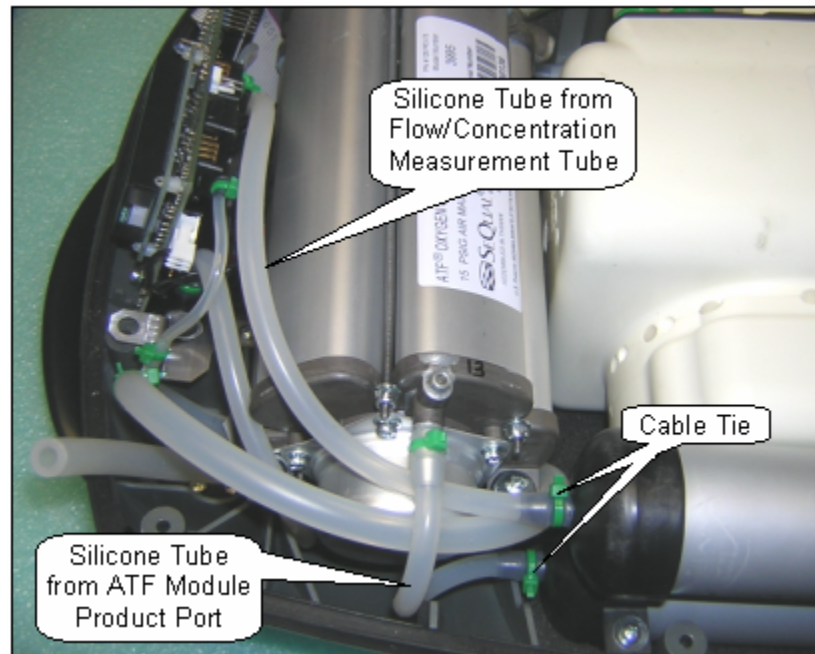
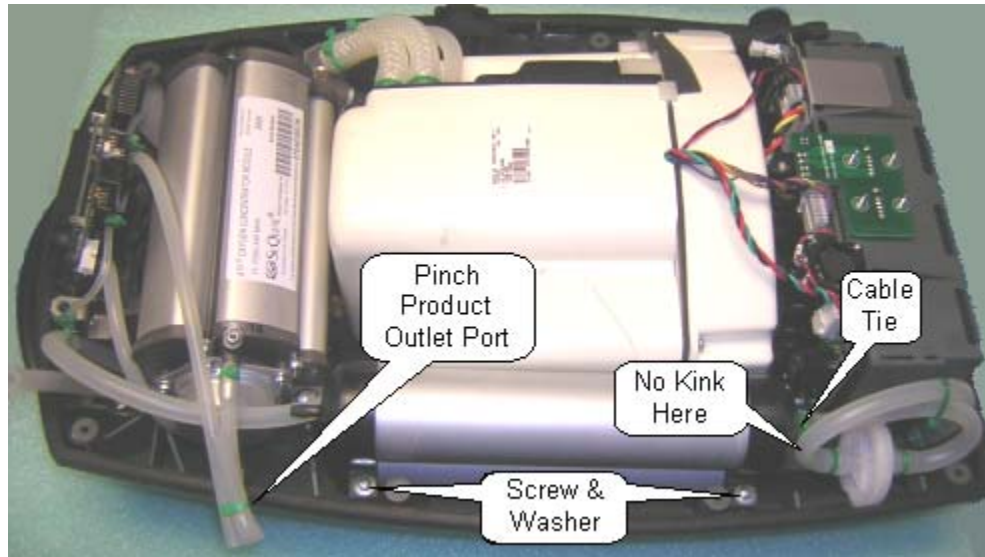

Figure 35: Product Tank inlet and Outlet Connections.
Figure 36: Product Tank Removal.
2. Cut the 2 green cable ties that secure the silicone tubes to the top of the Product Tank as shown in Figure 35 below. Disconnect these two silicone tubes. Pinch the silicone tube coming from the ATF product port and secure with a cable tie as shown on Figure 36 below.
3. Unscrew the 2 screws (M3x10 Plastite Screw, P/N 6950-310) and remove the screws and washers (M3 Flat Washer, P/N 6950-03) as shown in Figure 36 shown below.
5. Cut the 2 green cable ties that secure the silicone tubes to the bottom of the Product Tank as shown in Figure 35 above. Disconnect these two silicone tubes.
6. To reinstall, secure the 2 silicone tubes coming from the HEPA filter to the bottom ports of the Product Tank. Orient the HEPA filter so the loop is above the filter as shown in Figure 36 above. Secure joints with cable ties. Inspect the tubing to ensure the tubing is not kinked.
7. Install the silicone tube that comes from the ATF product port to the bottom Product Tank as shown in Figure 35 above. Secure with a cable tie. Inspect the tubing to ensure the tubing is not kinked.
8. Install the silicone tube that comes from the flow tube of the control module to the top product tank as shown in Figure 35 above. Secure with a cable tie. Inspect the tubing to ensure the tubing is not kinked.
9. Install Product Tank with 2 screws and 2 flat washers into the Unit Case as shown in Figure 36 above.